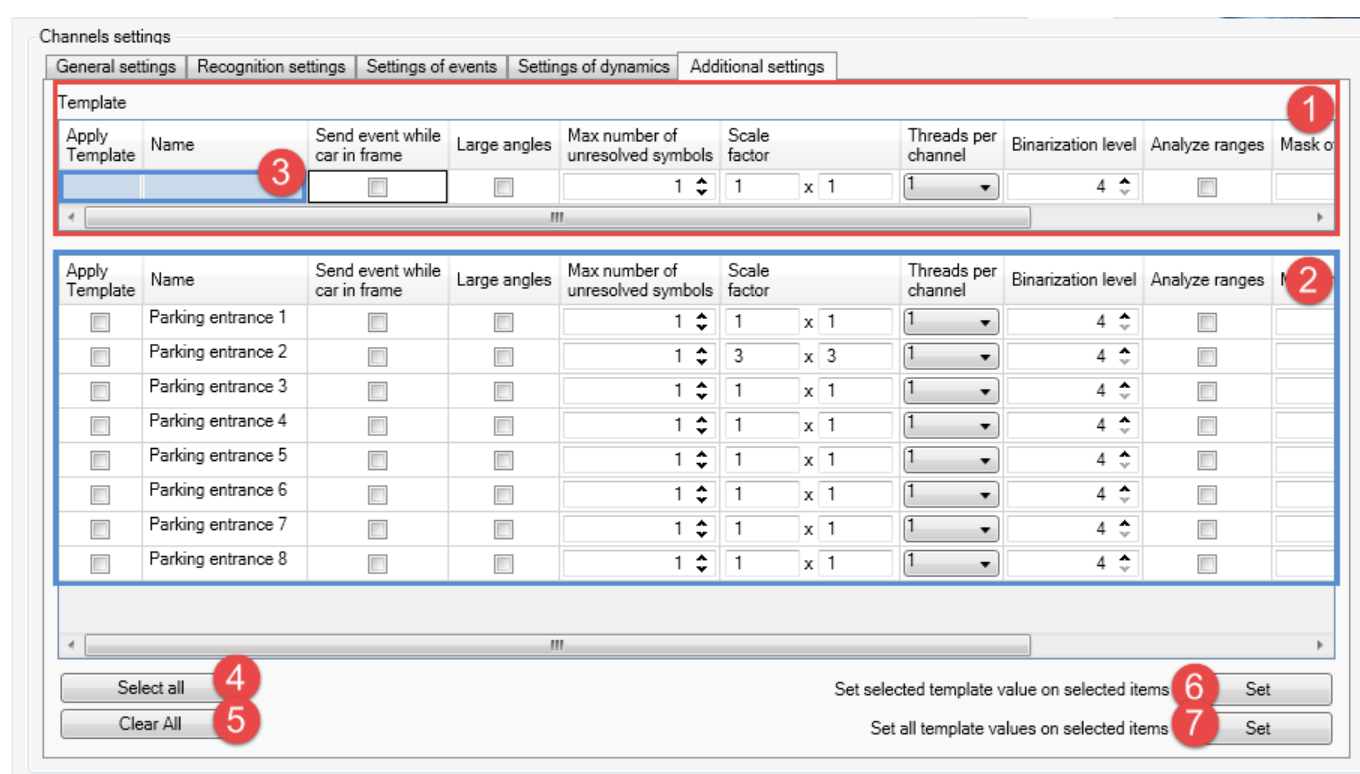
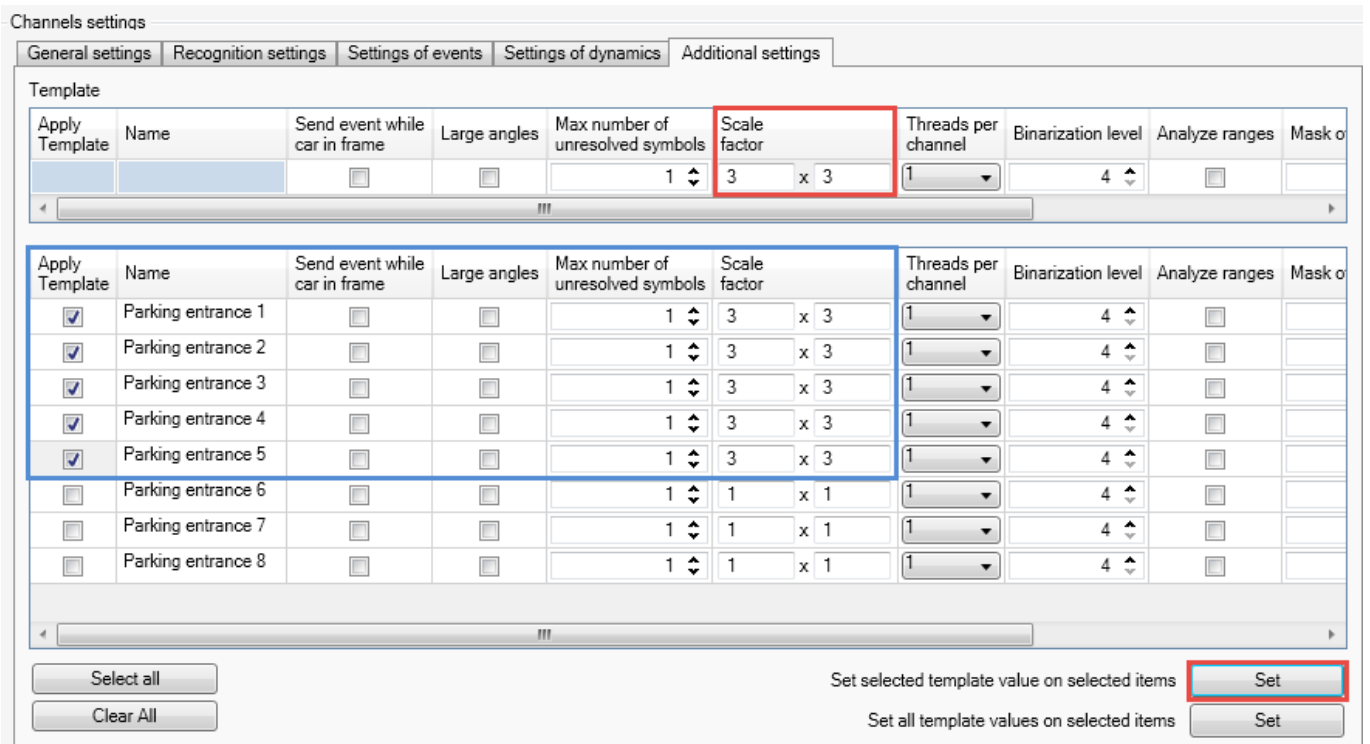

Figure 8: Template feature on the properties panel of a system object
Figure 9: Order of actions to apply a created template
The fields in template section (Fig. 8, 1) correspond to the fields of the object being configured (Fig. 8, 2).
2. Inserting the values into respective template fields (Fig. 8, 1).
Some object fields, such as **Name**, are supposed to be filled individually for each object and are not included into template fields. Such fields are highlighted blue (Fig. 8, 3).
- Click **Select all** button (Fig. 8, 4) to select all objects to be pre-set using a template.
- Click **Clear all** button (Fig. 8, 5) to deselect **Apply template** checkbox on all objects.
- To apply *a single specific template value to the settings* of selected objects, highlight the template value and click upper **Set** button (Fig. 8, 6). Also, see Fig. 9.
- To apply *all template values to the settings* of selected objects, click lower **Set** button (Fig. 8, 7).